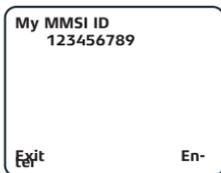

Figure 14
4. Repeat step 3 to enter the full 9 digit MMSI number. Once you have been entered all 9 digits, press **Enter** (fig 14).